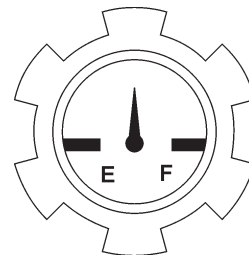

Figure 9. Fuel Cap Gauge
1. Check the fuel gauge (Figure 9) built into the fuel tank cap to determine if the pump's engine fuel is low.